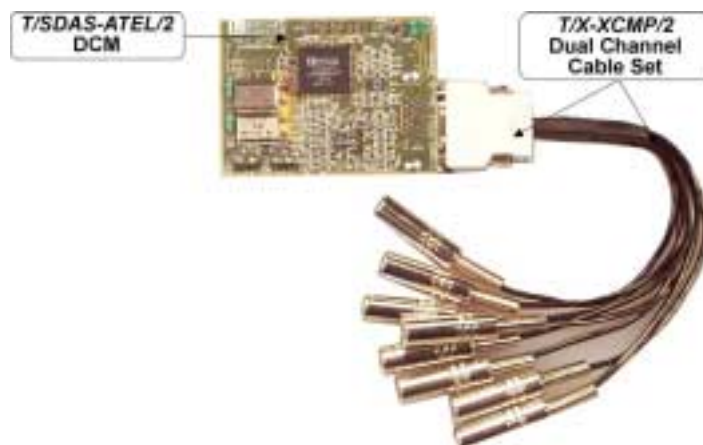

Fig. 1-7. T/SDAS-ATEL2 DCM with T/X-XCMP/2 dual-channel cable set.
- *T/X-XCMP/2* dual-channel analog I/O cable set (fig.1-7) for connection of two MIC/Line-in/Line-out/Phone sets